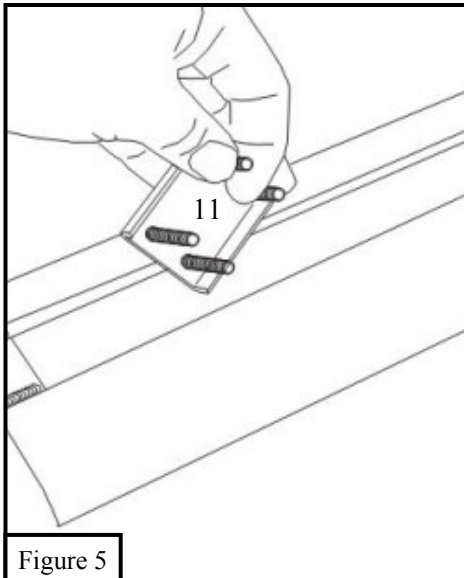

Figure 5
6. Identify driver and passenger side step bars. And install bolt plates (Item 11) to the underside of the step bars. **See Figures 5 and 6.**